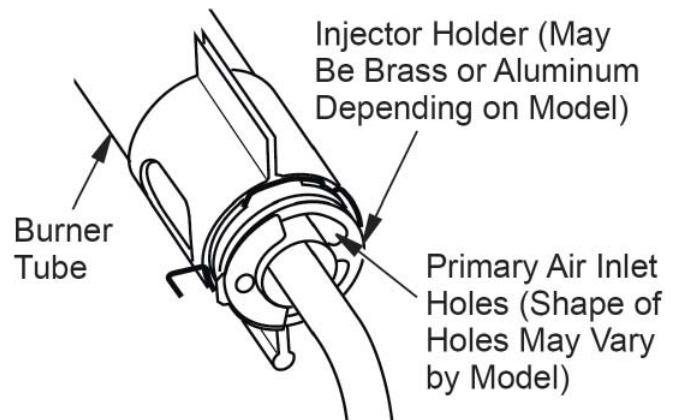

Figure 25- Injector Holder On Outlet Burner Tube
2. Inspect burner, pilot and primary air inlet holes on injector holder for dust and dirt (see Figure 25).